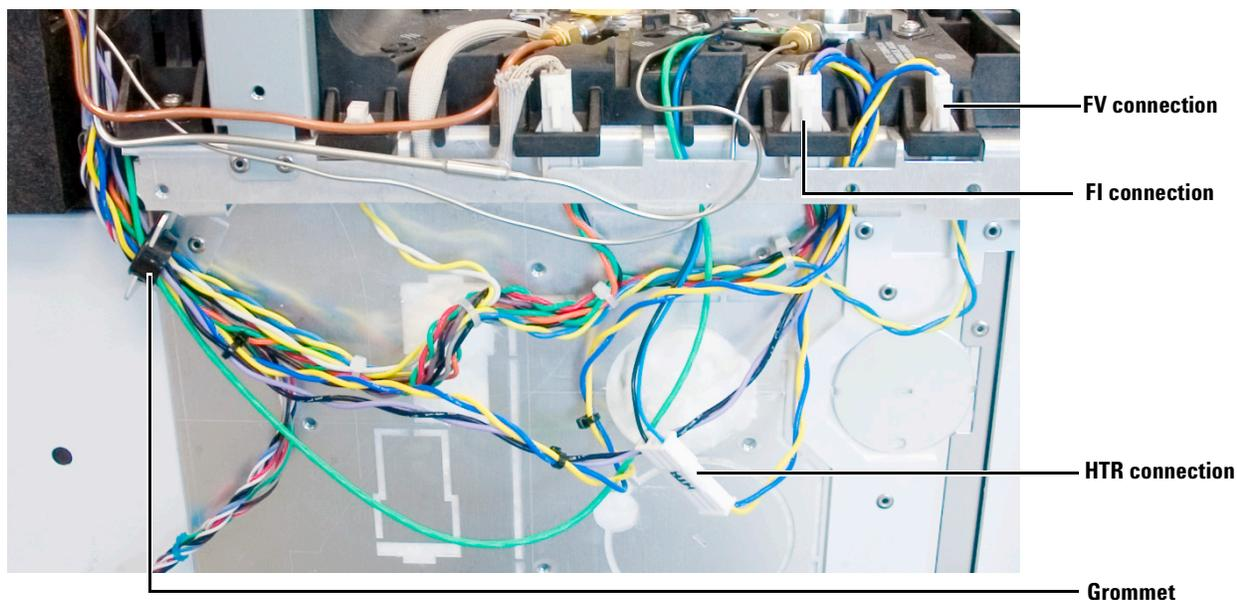

Figure 13 PTV liquid CO₂ electrical wire routing
- 3 Insert the PTV inlet and insulation block into the desired inlet position in the chassis so that the tubing and wiring are running to the left side of the chassis. See Figure 13 and Figure 14 for proper routing.
- 2 Route the white connector ends (FI and FV) of the wiring harness up through channels on the GC, plugging them into the appropriate connectors on the inlet chassis. It may be necessary to lift the inlet chassis cover in order to fit the connector ends through the slots. See Figure 13.
- 6 Plug the heater wire connector into the heater connector labeled HTR on the wiring harness. See Figure 13.
- 2 Route the white connector ends (FI and FV) of the wiring harness up through the channels on the GC, plugging them into the appropriate connectors on the inlet chassis. It may be necessary to lift the inlet chassis cover in order to fit the connector ends through the slots. Refer to Figure 13.
- 14 Slide the grommet on the left side of the GC out of the sheet metal slot and include the thermocouple wire, solenoid valve cable, and PCB cable in the grommet. Position the grommet back in the slot. See Figure 13.